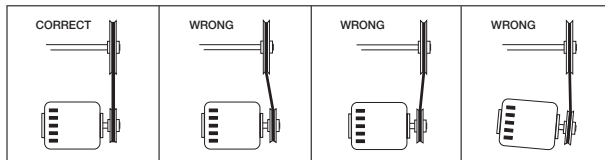

Figure 16
- If adjustments are made, it is very important to check the pulleys for proper alignment. Misaligned pulleys lead to excessive belt wear, vibration, noise and power loss, see *Figure 16*.